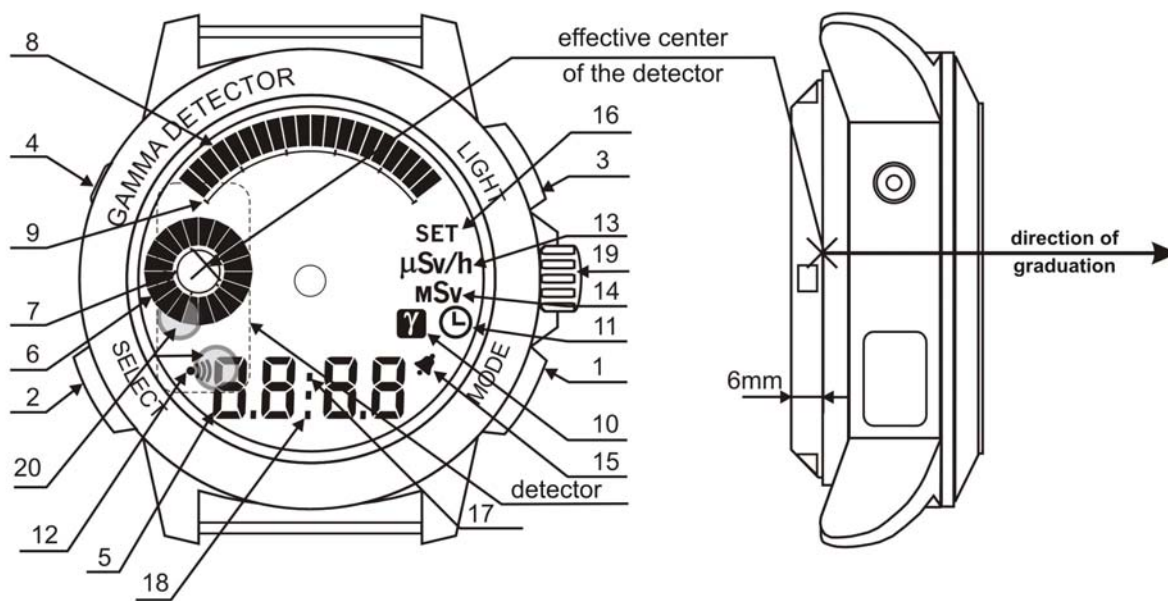

Fig. 2.1 – The general overview of the indicator
**2.3.14** The indicator is supplied with a display backlight, which is turned ON when button 3 (LIGHT) is pressed (see Fig.2.1).
A graduation direction and the indicator effective center relative to which the factory calibration is performed are shown in Fig.2.1.
The hands of the analogue watch are located above the LCD of the indicator. Four buttons to control the electronic block of registration and a crown to control the movement of the analogue watch are located around the periphery of the indicator case (Fig.2.1).
The controls and indication elements (Fig. 2.1) are as follows: